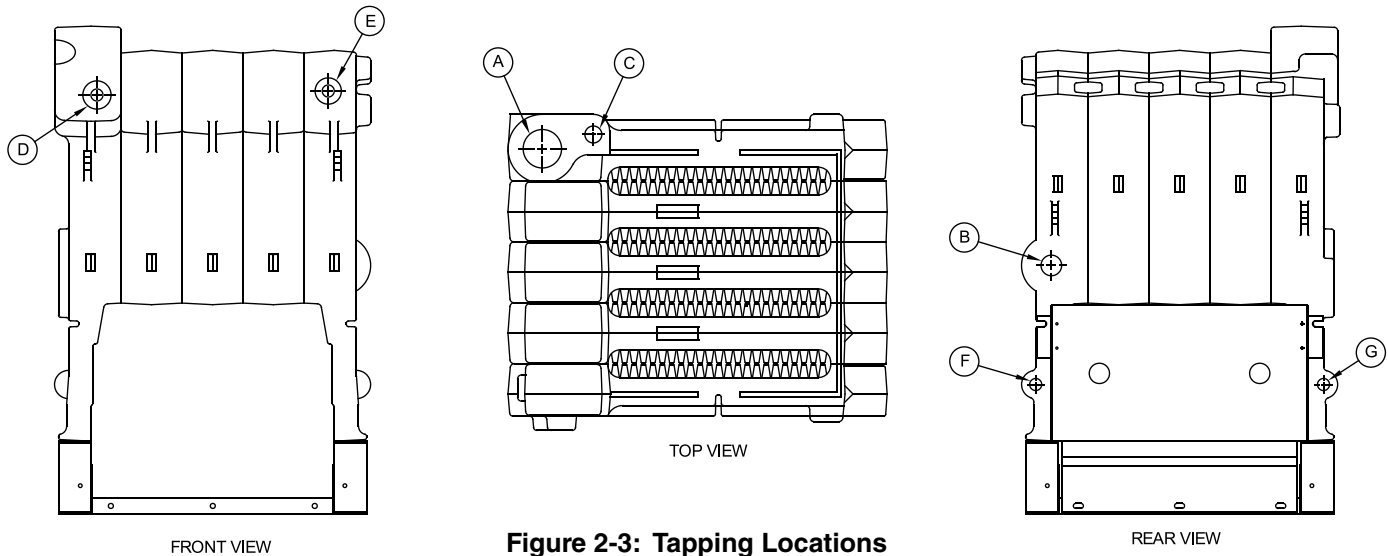

Figure 2-3: Tapping Locations
- D. Test Section Assembly for leaks before connecting to system and installing controls, trim and jacket. See Figure 2-3 and Table 2-2.
For testing gauge may be connected to permanent location in 2 in. NPT supply pipe as shown in Figures 3-4 and 3-5 or may be connected to a tapping that is unused for pressure testing, such as in Tapping C shown in Figure 2-3.
2. Insert Electro-Well in Tapping D. See Figure 2-3.
1. Install $\frac{3}{4}$ in. NPT x $3\frac{1}{2}$ in. lg. nipple in tapping "C". See Figure 2-3.